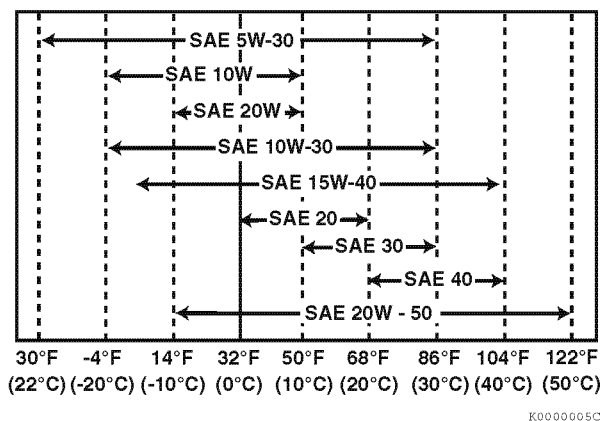

Figure 4-4
- Select the oil viscosity based on the ambient temperature where the engine is being operated. See the SAE service grade viscosity chart (Figure 4-4).
Select the appropriate engine oil viscosity based on the ambient temperature and use the SAE service grade viscosity chart in Figure 4-4.